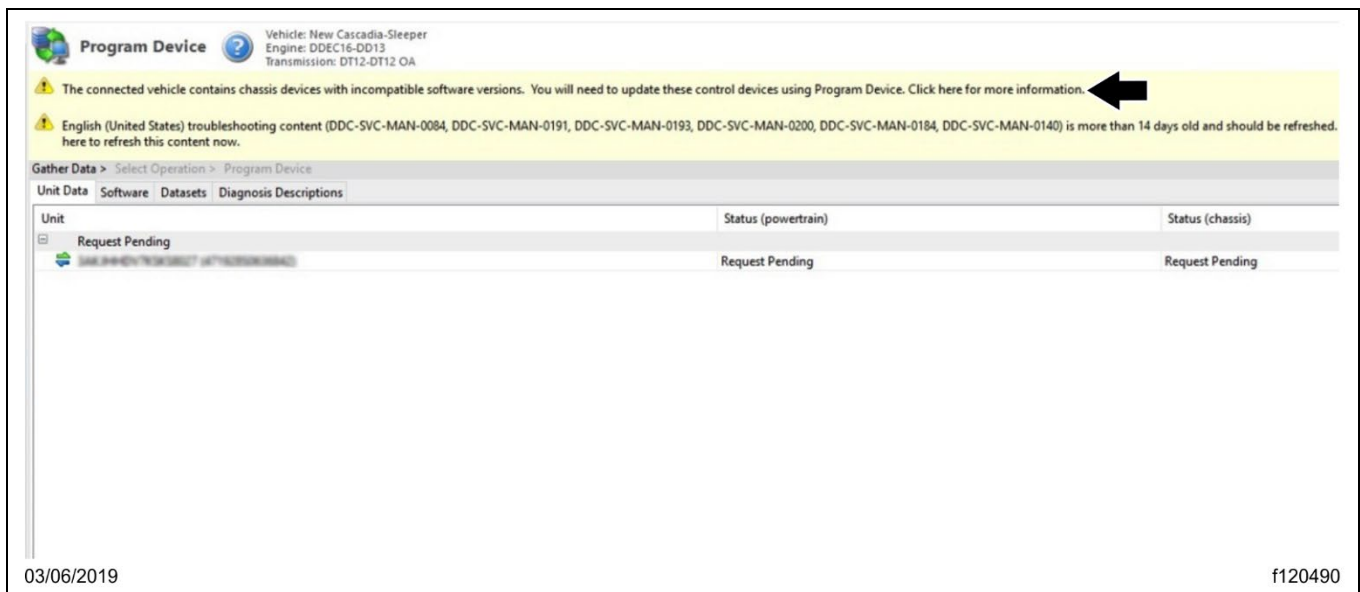

Fig. 21, Selecting the Banner Message
7.14. Select the banner message. See Fig. 21.